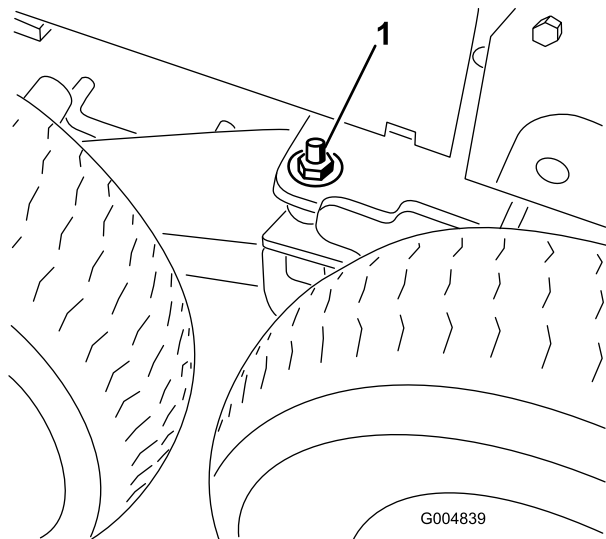

Figure 133
3. Loosen and remove the locknut and flat washer from the bogie pivot weldment (Figure 133).
6. Lower the floor jack until the front wheels support the frame. Install the flat washers (1/2 inch) and locknuts on the bogie pivot stud (Figure 133). and torque to 75 ft-lb (102 N•m).